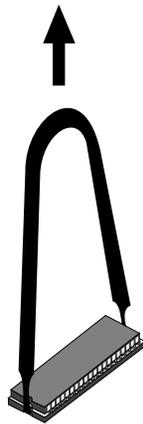

Figure 2-11 Removing the PROM Chip
- Insert the chip removal tool between the PROM chip and the socket on the board, as shown in Figure 2-11. Work the chip away from the socket in a rocking motion, pulling up on one side of the chip and then on the other side. It may be difficult to loosen.